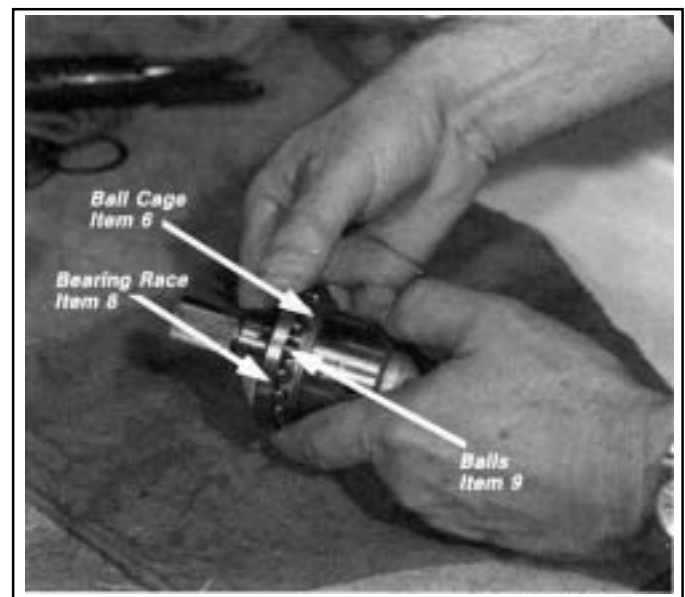
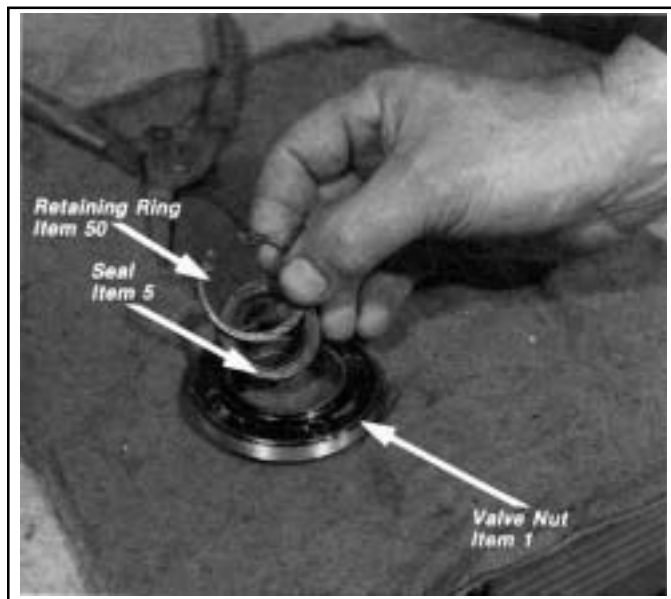

FIGURE 36 - SPINDLE ASSEMBLY BALL BEARING
FIGURE 37 - VALVE NUT SEAL
23. Separate the outer race (8), ball cage (6) and 17 balls (9) from the spindle assembly (3). *Figure 36*
24. **Do not remove** the other half of the ball bearing outer race (8) in the valve body.
25. Remove the retaining ring (50) and then the seal (5) from the valve nut (1). *Figure 37*